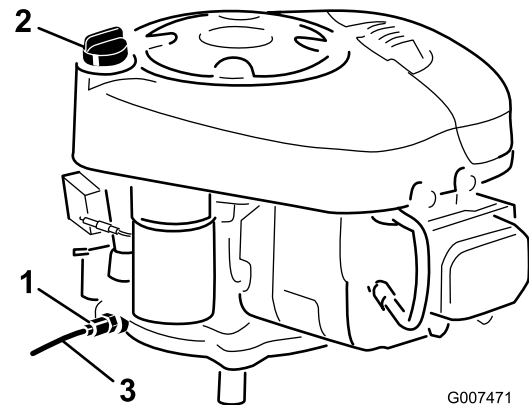

Figure 23
9. Insert the draining tube onto the oil drain valve (Figure 23).
11. Open the oil drain valve (Figure 23).